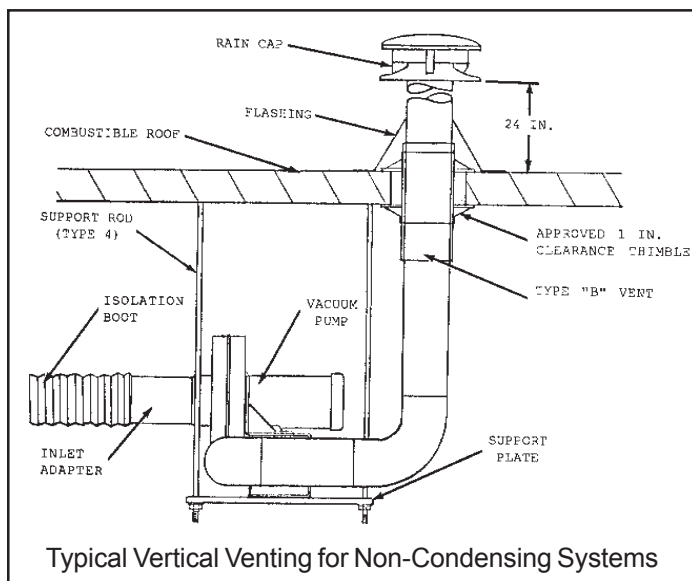

Figure 3-18
- It is recommended that single-wall vent material be used. The portion of the vent which goes through combustible material in the building wall or roof must pass through a dual insulated vent sleeve with an approved 1 inch clearance thimble (see Figure 3-18 and 3-19).
- Vertical vents which exit through the roof should be at least 2 ft. higher than any portion of the building within a horizontal radius of 10 ft. of where it passes through the roof of the building (see Figure 3-18). A standard rain cap may be used to shield the vent.